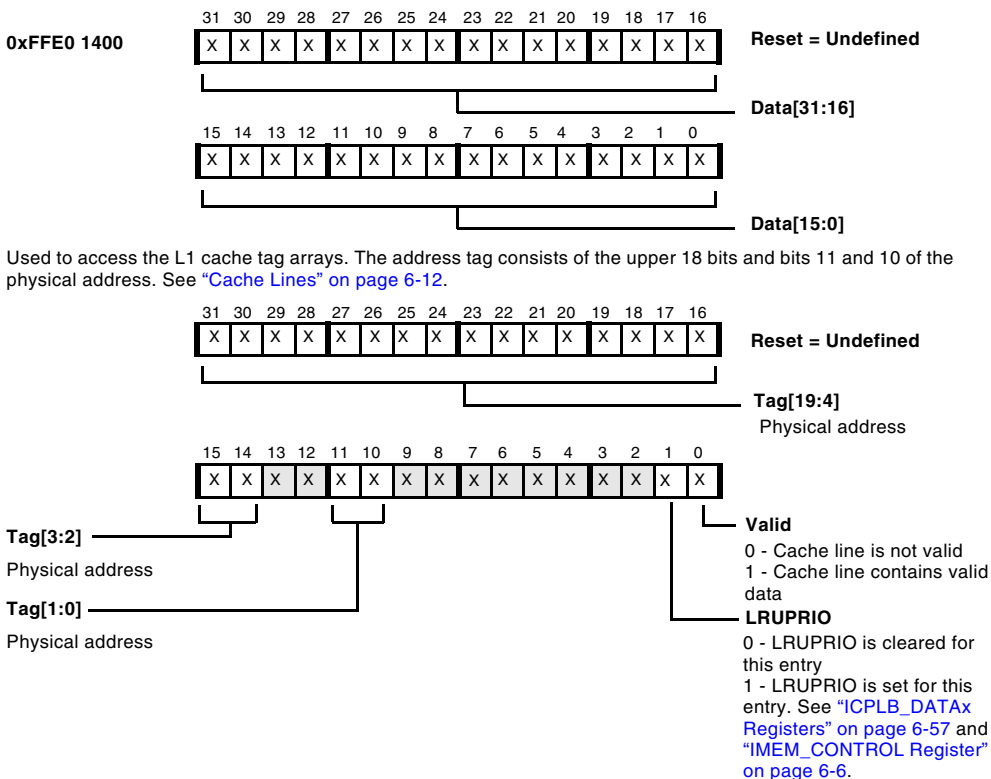

Figure 6-8. Instruction Test Data 0 Register
- Figure 6-8, “Instruction Test Data 0 Register,” on page 6-24